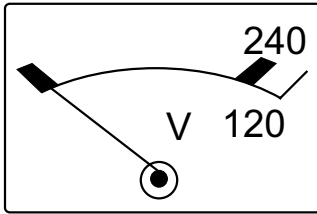

Figure 49. AC Voltmeter (Zero Volts)
8. Verify that the AC voltmeter (Figure 49) on the generator reads zero volts.